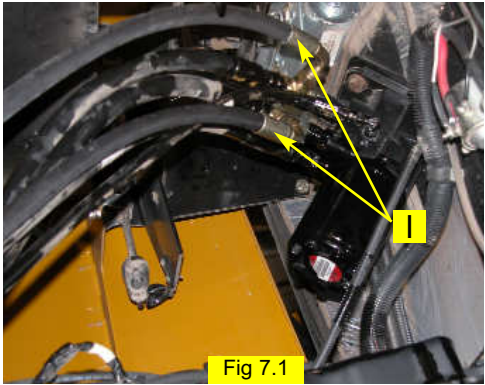

Fig 7.1
Install the provided steering output hoses (I) between the run-tees installed in step 6 and the A and B ports of the hydraulic control block. (Figure 7.1 and 7.2) Attach hose ends equipped with 90-degree elbows to the run-tees and attach the straight hose ends to the hydraulic control block. Route hoses with existing steering lines as shown. (Figure 7.3) Use the heavy tie-straps provided to secure the hoses away from moving parts.